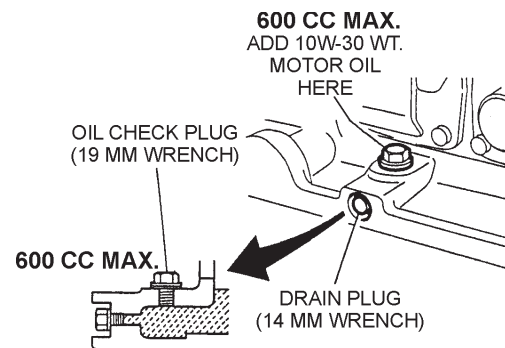

Figure 31. Vibrator Oil Drain and Check Plugs
1. In every 100 hours of operation, with the machine positioned horizontally, use a 3/4" (19 mm) wrench and remove vibrator oil level check plug (Figure 31). Visually inspect and see if vibrator oil level is up to filler port. Be sure to clean area around check hole to prevent dirt and dust from entering.
3. Using a 14 mm wrench remove the vibrator oil drain plug (Figure 31) from the vibrating plate assembly.
4. After vibrator oil has been completely drained from machine, fill with 10W-30 motor oil to the appropriate safe operating level (Figure 31).